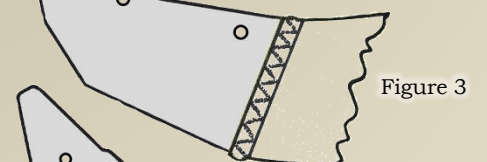

Figure 3
3. Clean sealer beads on both side between the nosepiece and ripper shank. Begin building up with a weave pattern of weld on successive welds (figure 3). **LET REPAIR OR CONVERSION WELDS COOL SLOWLY.**